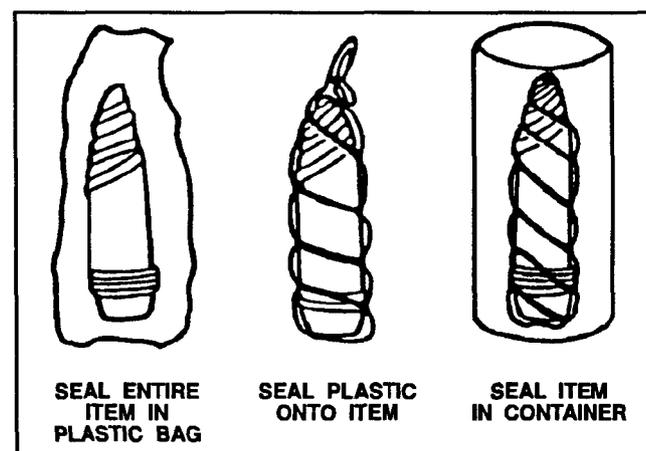

Figure 5-8. Sealing and packaging a leaking round.
- Keep the leakage point right-up (high). Place the projectile in a plastic bag. Wrap several layers around it. Seal the bag with adhesive tape, twine, or rope. (A tarp or camouflage net carrier will also work.) Figure 5-8 shows a typical method of sealing and packaging a leaking round.